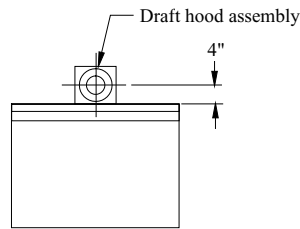

Figure 21. Location of the flue collar on the draft hood, for determining the location of the ceiling opening.
2. Check to ensure that the path for venting is clear. Try to position the stove midway between two joists to avoid having to cut them. Cut and frame an opening centered over the vent collar on the draft hood (see Figure 21).